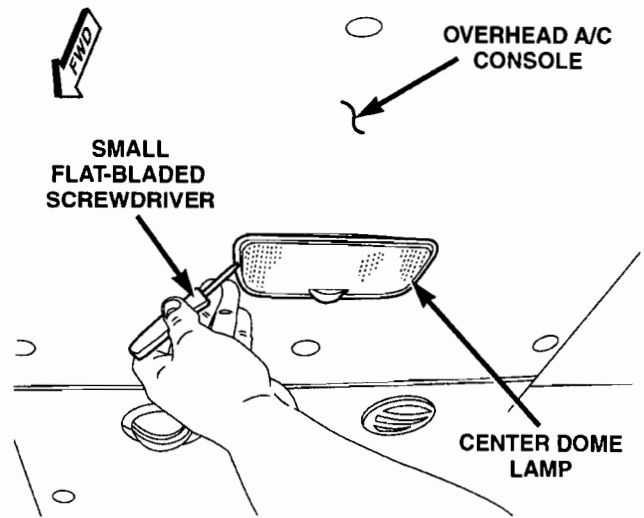

Figure 2 – Center Lamp Shown
3. Insert the tip of a small flat-bladed screwdriver into the notch on one edge of the center dome lamp housing (Figure 2). Depress the retainer clip and pull that edge of the lamp away from its mounting location.